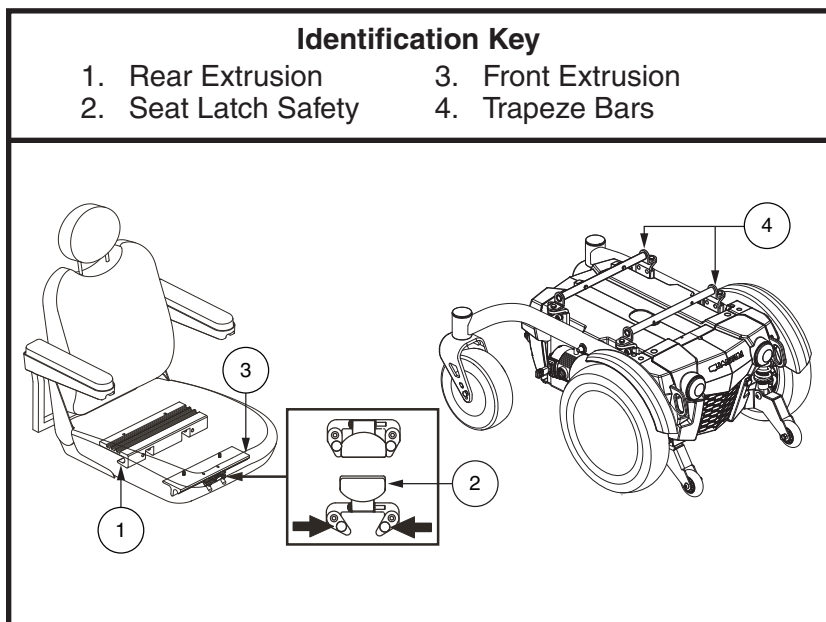

Figure 7. Universal Mounting System and Contour Seat
It may be necessary to install the seat either prior to initial operation or after transporting your power chair. Contour seats are attached to the power base with the Universal Mounting System (UMS). The UMS consists of universal parts that may be attached to the seat, regardless of seat width or seat depth. The two main components are aluminum extrusions mounted to the seat base. These extrusions attach to a pair of trapeze bars that are mounted to the power base. **See figure 7.**
1. Tilt the seat back and slide the rear extrusion onto the rear trapeze bar. **See figure 7.**
4. Flip up the seat latch safety. **See figure 7.**